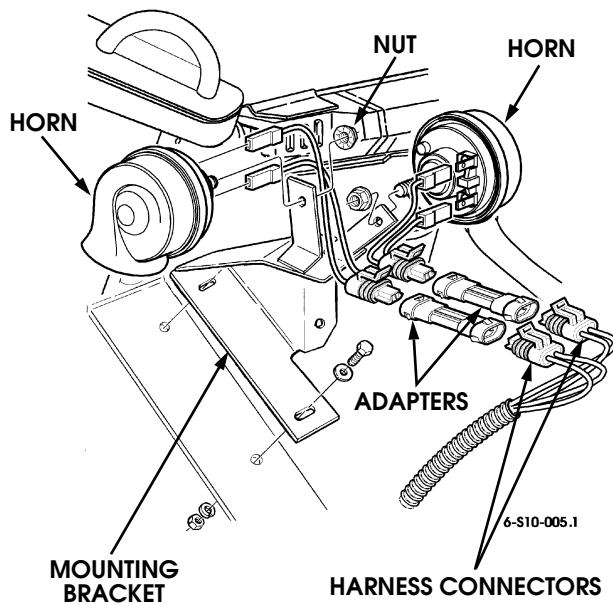

Figure 2-81: Horn and Horn Mounting Bracket Replacement
2. Remove nut and horn from mounting bracket (Figure 2-81).
2. Remove bolts, washers, lockwashers, nuts, and horn mounting bracket from airlift bracket (Figure 2-81).
1. Secure horn mounting bracket to airlift bracket with bolts, washers, lockwashers, and nuts (Figure 2-81).